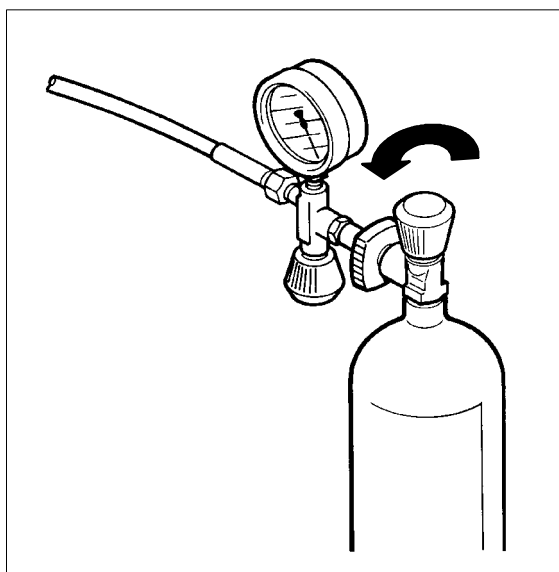

Fig. 39 Connecting air bottle
- Connect air bottle to filling valve (see Fig. 39).